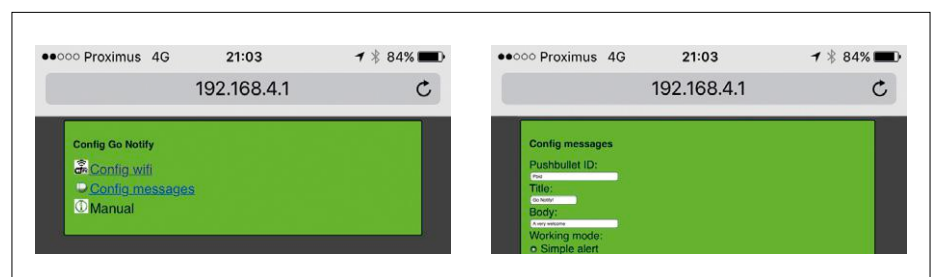

Figure 4. Connect to the GoNotify access point to configure the device for your Wi-Fi network.
When new firmware has been programmed into the device, and all memory has been erased it must be (re)configured before it can be used (configuration data is stored in the MCU's EEPROM, Wi-Fi configuration data is stored in the ESP-01S module). Start by pressing Reset button SW1. GoNotify will now act as an access point (AP) by default at 192.168.4.1 (but the user can change this in the software), see **Figure 4**. After configuration GoNotify expects a trigger, either by pressing SW2, closing RE1 or by making the sensor pass a certain threshold value (to be defined in the software first). The buzzer produces a notification beep and
a test message is sent; its contents and destination depend on how you configured the device. The example in Figure 4 sends a message to a PushBullet service ([www.pushbullet.com](http://www.pushbullet.com)). From this point on GoNotify will enter normal operation in its low-power guard mode.